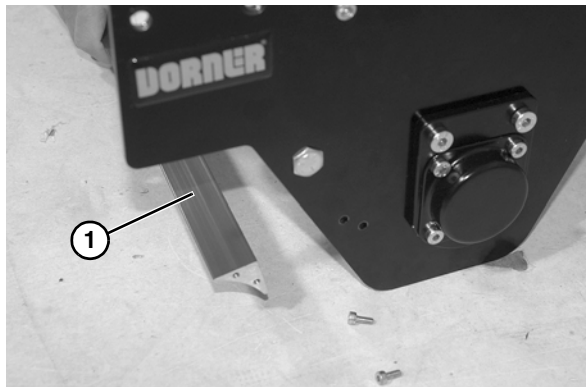

Figure 50
6. Remove pinch guard (Figure 50, item 1).
Note orientation of guard (Figure 50, item 1) before removing from end plates.